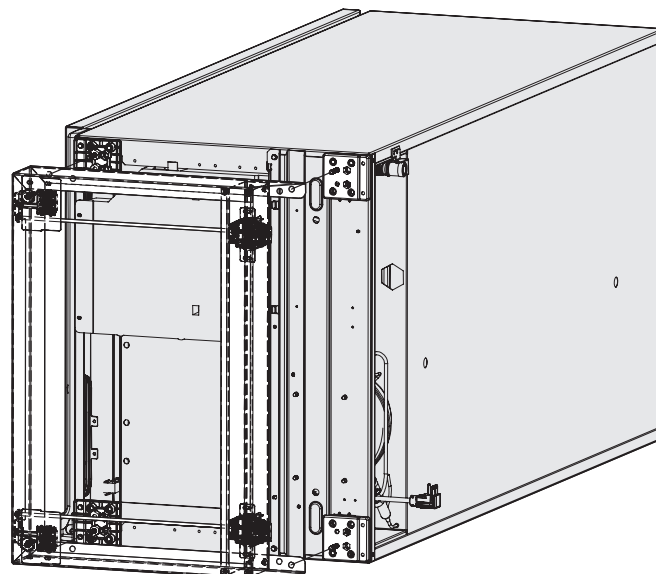

Figure 2-23.
9. Now that all the spacers are assembled on the unit, you may position the riser on the bottom of the unit, making sure the slanted end is toward the back of the unit. See Figure 2-23.